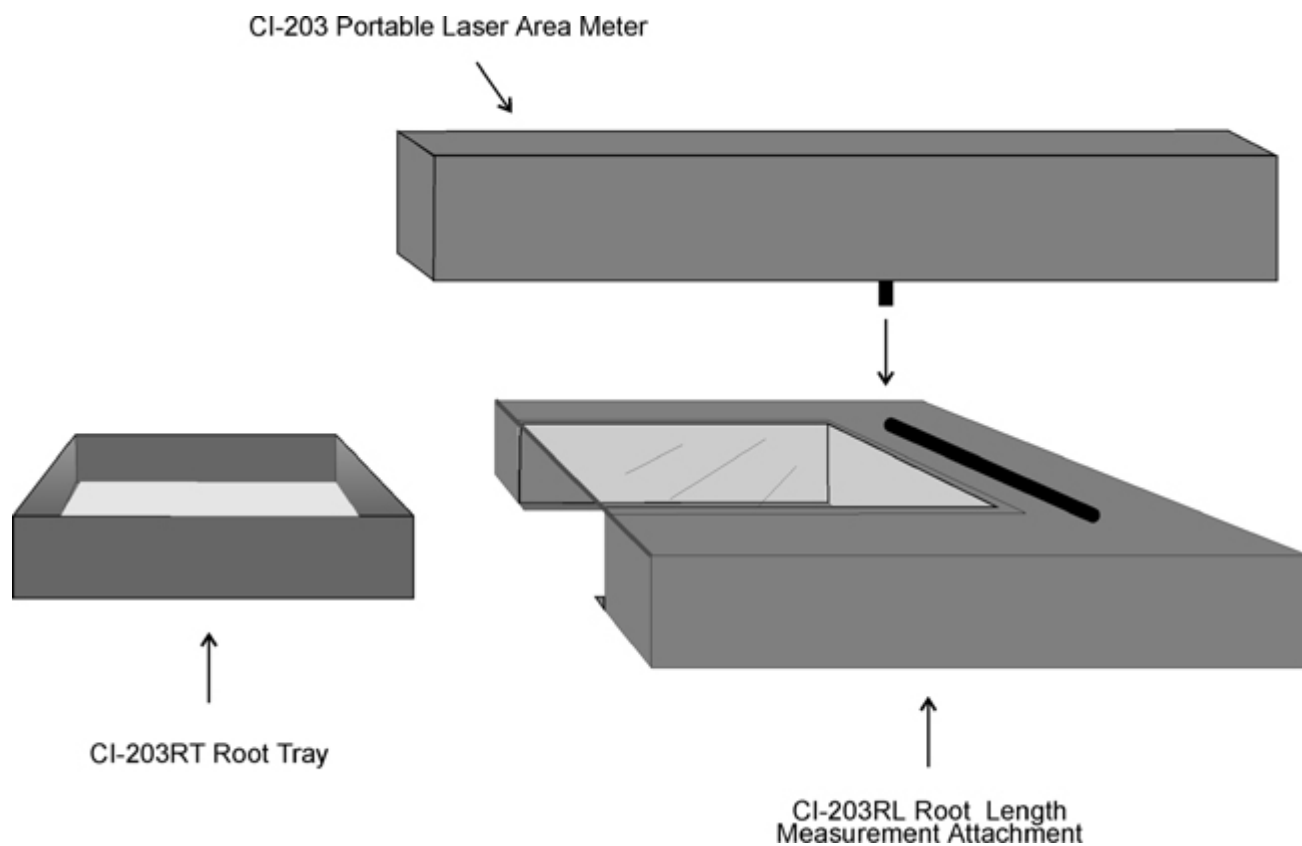

Figure 10. Root length measurement setup.
- Remove the roller arm on the CI-203 Leaf Area Meter by pushing the thumb section of the arm slightly back toward the display and lifting it out. Insert the supplied "T" shaped slide adapter into the CI-203 with the groove in the base of the "T" facing towards the right end of the instrument. The arm will snap into place when it is located correctly. See Figure 10 on page 22.